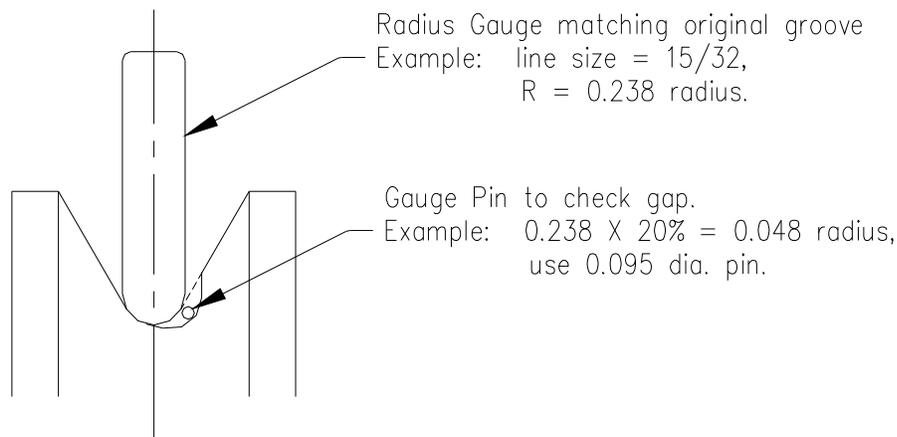

Figure 1. Wheel Groove Inspection
- Inspect the wheel groove for wear. See figure 1. Insert a radius gauge corresponding to the original groove size listed in doc. # WTI-16. If the groove has worn more than 20%" from its original form, recommend wheel re-grooving to the customer. Wheels can be re-grooved up to 0.250" deeper than their original dimension. The minimum diameter at the bottom of the groove is 14.75. If the wheel cannot be re-grooved within these parameters, recommend replacement.